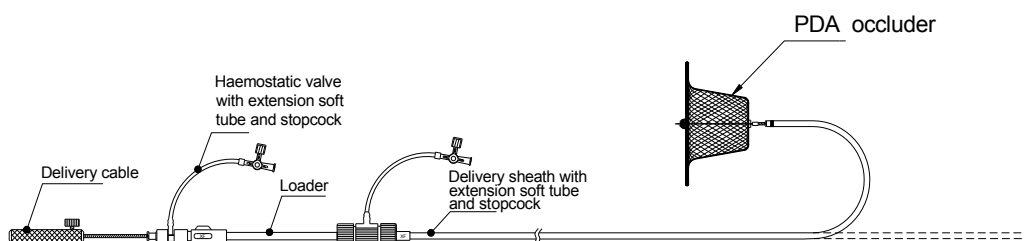

Figure 1 The HeartR™ PDA Occluder and SteerEase™ Introducer
- The HeartR™ PDA Occluder must be used in combination with the SteerEase™ Introducer. The introducer contains a coil reinforced sheath, a dilator, a loader, a haemostatic valve and a delivery cable. The introducer is used to advance the HeartR™ PDA Occluder to the proper position. The SteerEase™ Introducer (Refer to Figure 1) is comprised of: